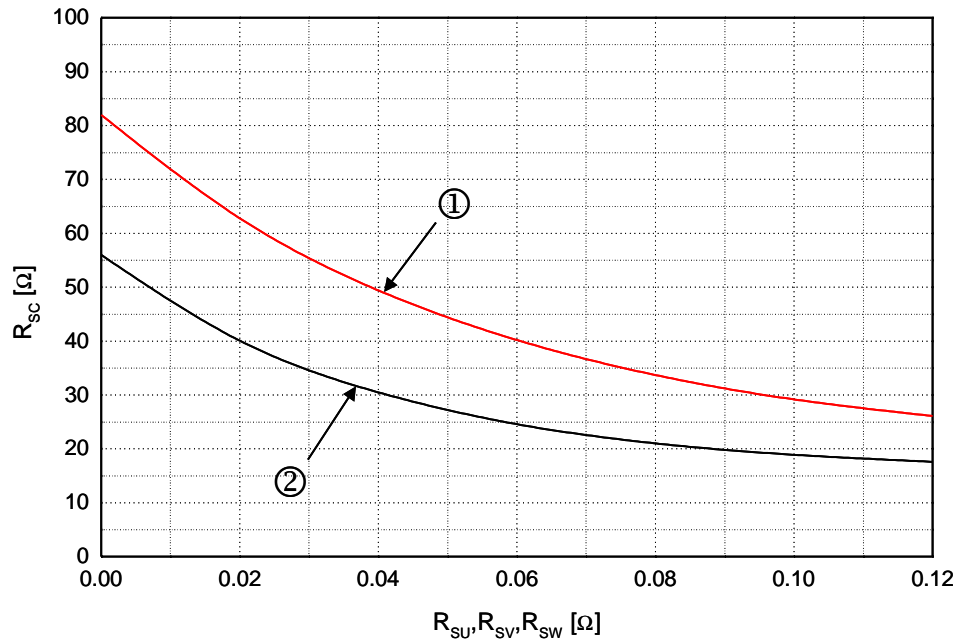

Fig. 8. R_{SC} Variation by change of Shunt Resistors (R_{SU}, R_{SV}, R_{SW}) for Short-Circuit Protection
- Short-circuit current protection is functioning only at the low-sides. It would be recommended that the value of the external sensing resistor (R_{SC}) should be selected around 56 Ω in order to make the SC trip-level of about 15A at the shunt resistors (R_{SU}, R_{SV}, R_{SW}) of 0 Ω . For the detailed information about the relationship between the external sensing resistor (R_{SC}) and the shunt resistors (R_{SU}, R_{SV}, R_{SW}), please see Fig. 8.
9. For the use of shunt resistors (R_{SU} , R_{SV} , R_{SW}), please see Fig. 8 in order to select the proper R_{SC} .